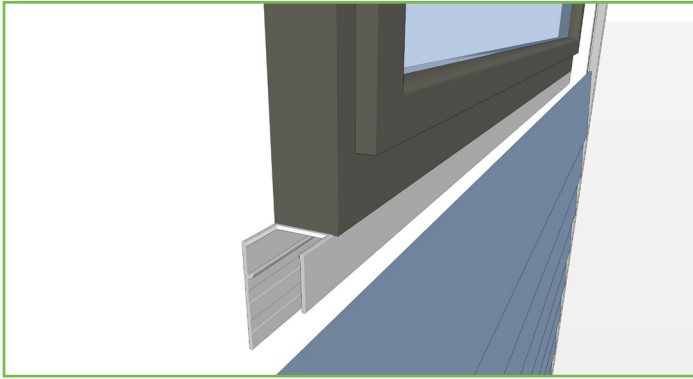

Figure 24.1
- 5.** Extend EZ.40 J trim 3/4" past both sides of the window sill (Figure 24.1).